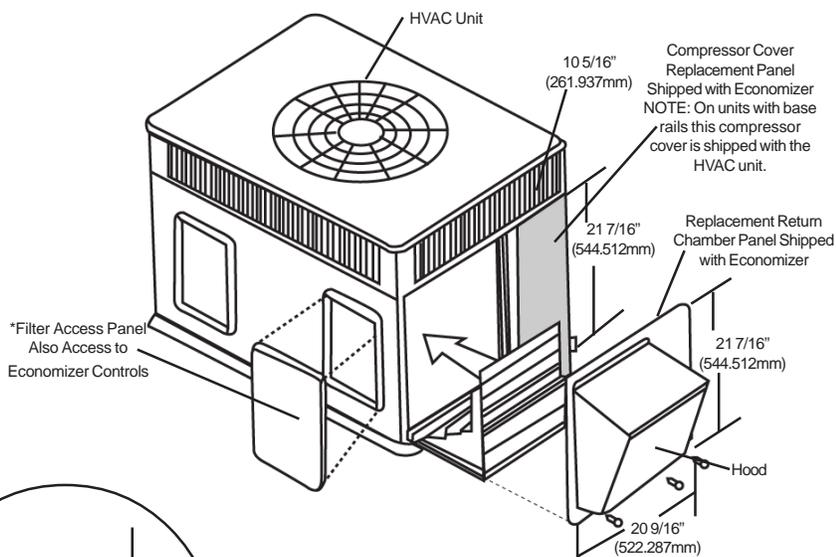

Fig. 6 - Economizer Installation
8. Install the compressor access panel provided with the economizer. Secure to HVAC unit per Figs. 6 and 7. Units with base rails will have compressor panel shipped with.
9. Install the economizer assembly into the return air chamber, making sure the economizer completely covers the bottom return air opening. See Fig. 6. Remove the red shipping tape holding the relief dampers closed. NOTE: The hole in the center of the bottom of the economizer will line up with the mating hole in the HVAC base - however do not insert screw yet.
10. Install the replacement return chamber panel over the economizer assembly and underneath the drip flange on the HVAC unit. Line up the bottom center hole on the panel with the hole in the bottom of the economizer and the mating hole in the base of the HVAC unit. Insert screw, which will hold all parts in place. Insert screws on bottom, left, and right of panel and on panel right side as well. See Fig. 6.
NOTE: The economizer control settings and the filters are accessible through the horizontal return opening on side of HVAC unit. See Fig. 6.